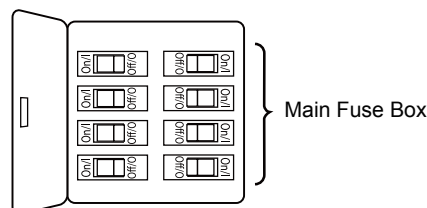

Figure 1
1. Prior to assembly, set aside and save the hardware bags included in the packaging. Remove the hanger ball by loosening the set screw in the hanger ball until the ball falls freely down the downrod. Remove the pin from the downrod, then remove the hanger ball. Retain the pin and hanger ball for reinstallation in Step 6. (Figure 1)
To avoid possible fire or shock, be sure electricity is turned off at the main fuse box before hanging. (Figure 1)
1. To set the code on receiver unit, slide dip switches to the same positions as set on the remote control. (Figure 1)